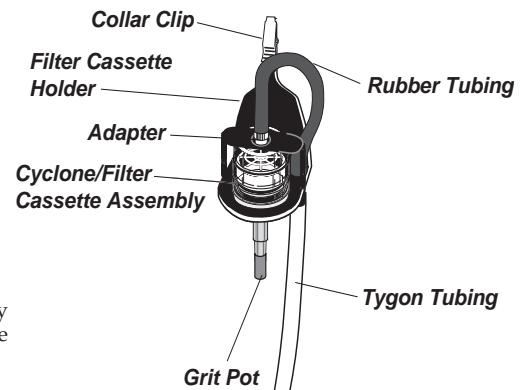

Figure 3
4. Insert cyclone/cassette assembly through large opening of filter cassette holder (see Figure 3). Ensure assembly is seated firmly in holder by inserting the cyclone's side pin (small round nodule on rim of cyclone) into the notch in the filter cassette holder.